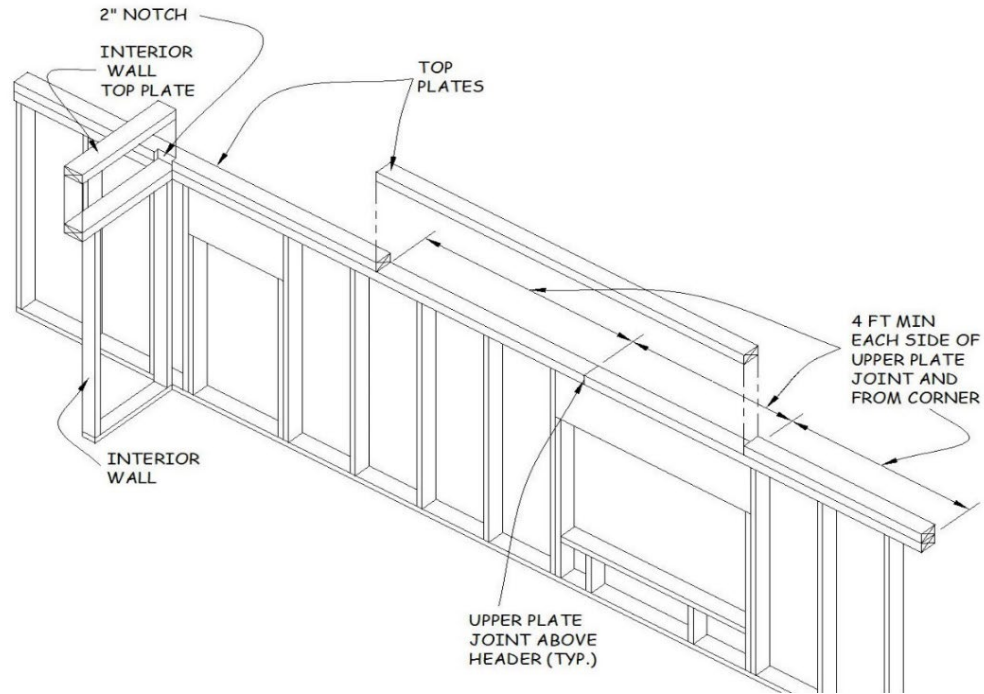

Figure 5-6. Exterior Wall Top Plate Installation.
2. The top plate on all bearing walls must extend a minimum of 4’ on each side of the wall plate joint, and at each corner (see Figure 5-6).